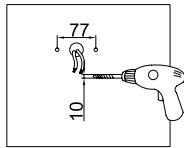

Figure 21
1. Drill mounting holes on the mounting surface as shown in the illustration below. (see Fig. 21)